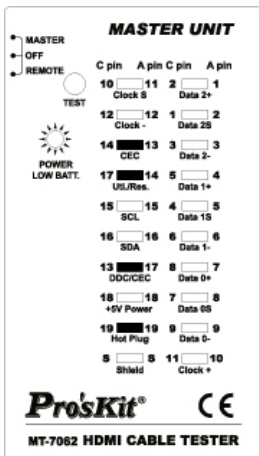

Fig 5. Crossover
- **Crossover**: With two short “beep” sound. Crossed pins LED will light on at same time. Example: Test HDMI (A Type) to HDMI (A Type) cable that pin #13 crossed with pin #17 and pin #14 crossed with pin #19, or test HDMI (A Type) to Mini-HDMI (C Type) cable that pin #14 crossed with pin #13 and pin #17 crossed with pin #19. (Fig 5.)